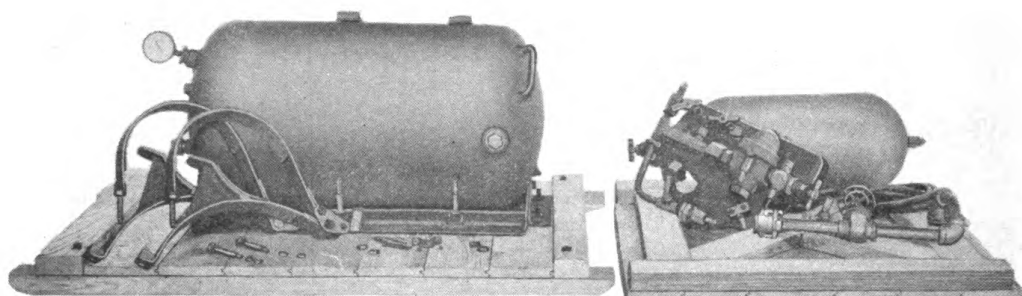

Fig. 11. Front fuel container straps and pressure container straps removed from sponson fuel group.
(12) Remove the jam nut and the nut from the two front fuel container straps.
(13) Remove the four nuts and the two bolts which connect link to the two back fuel container straps. Do not disconnect other bolts on link.
(14) Lift off front fuel container straps and pressure container straps as units (fig. 11). Do not disassemble them.
(15) Remove the low pressure gage from fuel container.